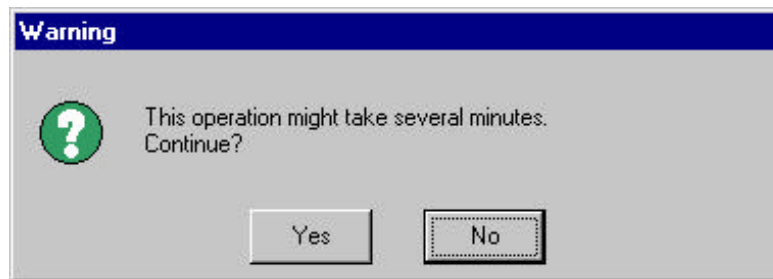

Figure 13.26
- b. A warning is displayed (the process could be time consuming) (Figure 13.26)